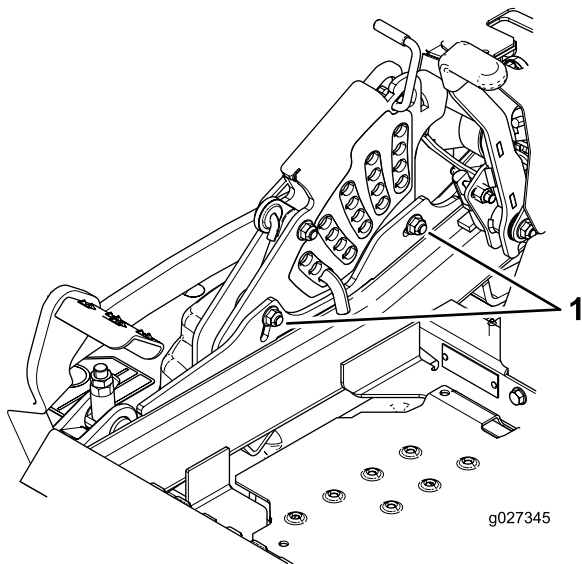

Figure 91
11. To adjust the single-point system, loosen the 2 bolts at the bottom of the height-of-cut plate (Figure 91).
13. Tighten the 2 bolts at the bottom of the height-of-cut plate (Figure 91).